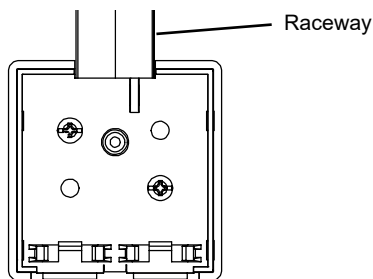

Figure 3
3. Mount box to solid surface with provided self tapping screws or double sided tape. See Figure 3. **Important: Maintain flatness when mounting base to mounting surface.**